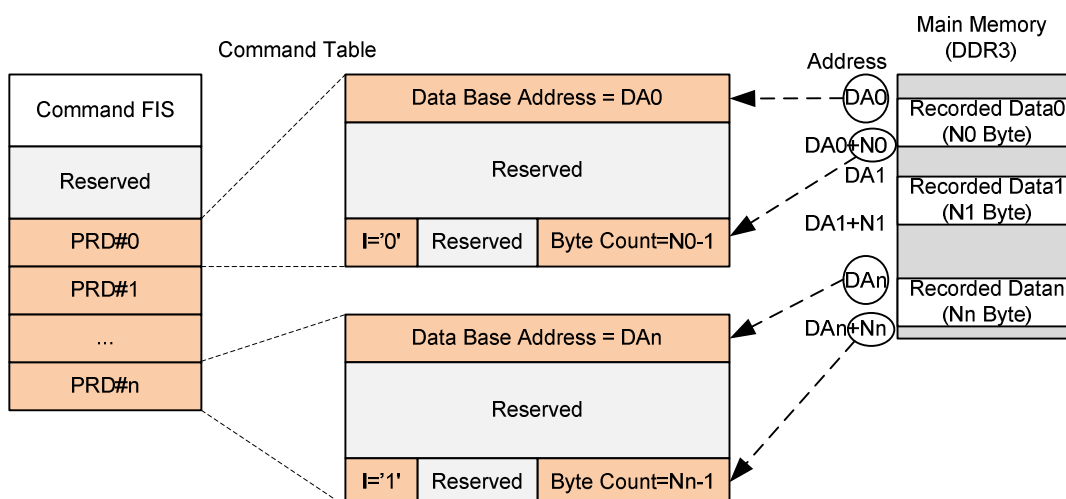

Figure 3-9 Set PRD for Write DMA Ext Command
- 4) Set Data Base Address of each PRD = Start address value of each recorded data segment in Main memory, and set Byte count = data size in each recorded data segment, as shown in Figure 3-9. 'I' bit in the last PRD must be set to '1'.